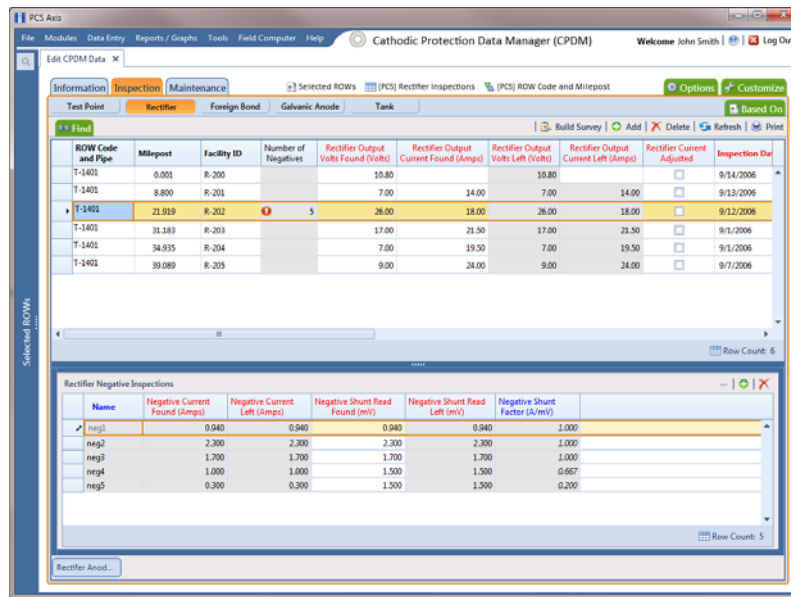

Figure 7-114. Rectifier Negative Inspections
- 5 Select a row of records in the *Rectifier Inspection* grid with the rectifier and negatives you want to add negative inspection readings. For example, the record for pipeline segment T-1401 with rectifier R-201 is selected in the following figure (Figure 7-114).
- Click **Refresh** to update derived fields, such as *Number of Negatives* shown in Figure 7-114.